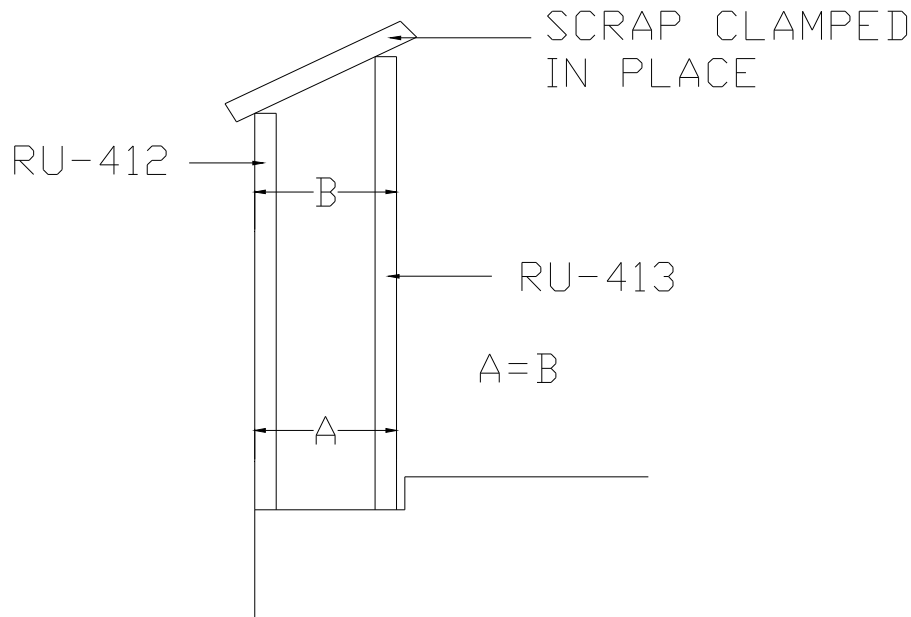

Figure 4.3.2
- 2) Cleco the Lower Tip Rib (RU0413) into place. Use a piece of scrap clamped to the nose of the ribs to keep them parallel. Figure 4.3.2. At this point you should drill a 1/2" hole in this lower rib, in line with the top hinge bolt hole, so the hinge bolt can be inserted. You will need to pass the head of the bolt into this hole to allow insertion into the hinge.